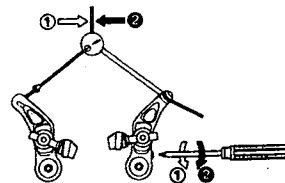

Fig. 34
Step 8 - Pre-center the cantilever arms by turning the spring adjusting screw on the side until the carrier is exactly centered underneath the housing stop (figure 34). Turning the adjustment screw inward will move the carrier to the right, turning outward will move the carrier to the left. Squeeze the brake lever once to guarantee the carrier stays centered. Readjust if necessary.